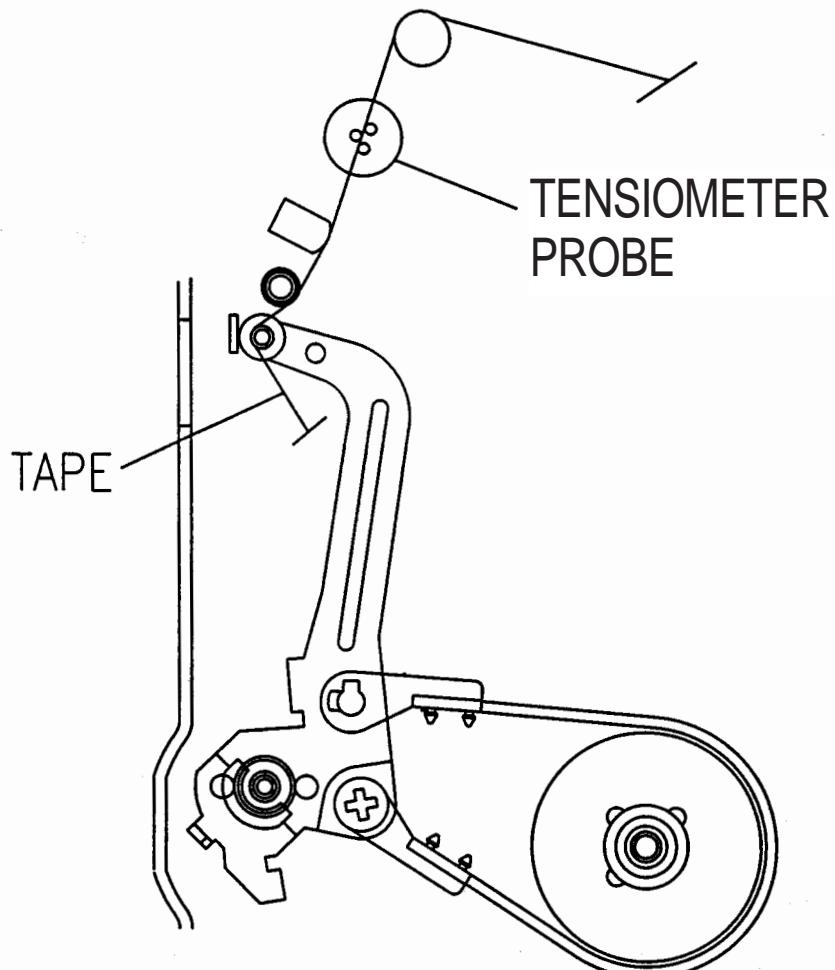

Fig. 6 - Back Tension Measurement/Adjustment
### Back Tension Measurement /Adjustment (fig. 6, 7)
3. Insert the Tensiometer on the tape path (fig. 6) and measure the back tension. the measured result must meet the specification (25-33gr).